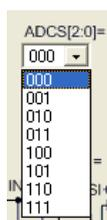

Figure 3-25
- Click the mouse, a menu as Figure 3-25 will show up, users can select the specified switch network.